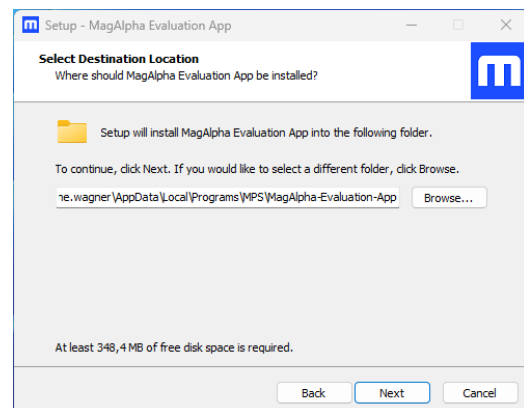

Figure 10: Installation Wizard (Destination Location)
3. Choose the destination folder and click “Next” (see Figure 10). Ensure that there is enough available storage for the installation.